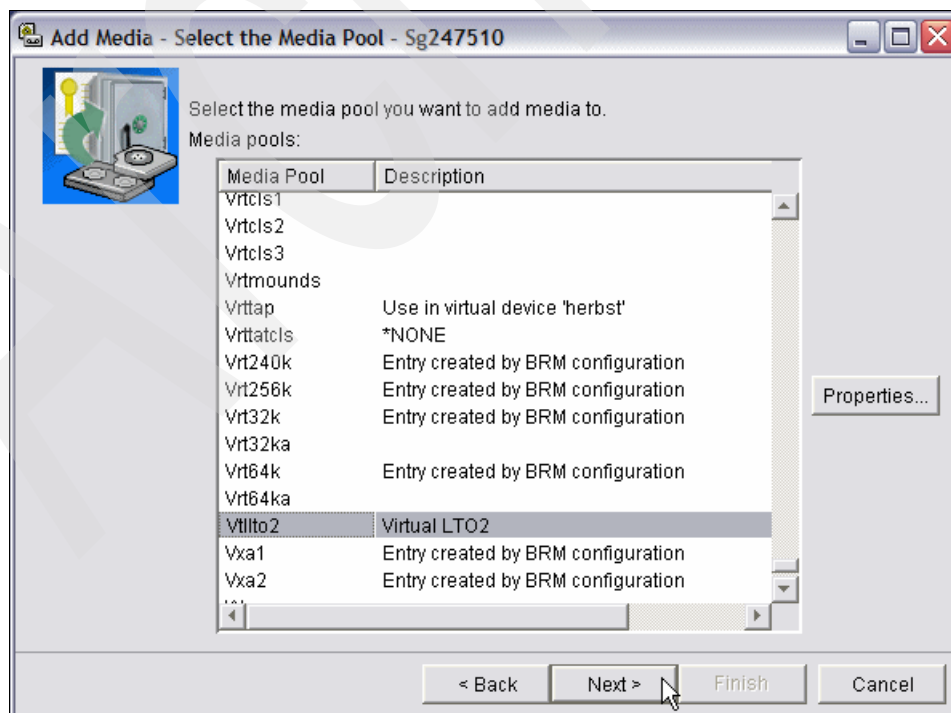

Figure 6-34 Add Media - Select the Media Pool
3. Select the media pool that you created earlier (Figure 6-34). In our example, this is media pool **vtlto2**.